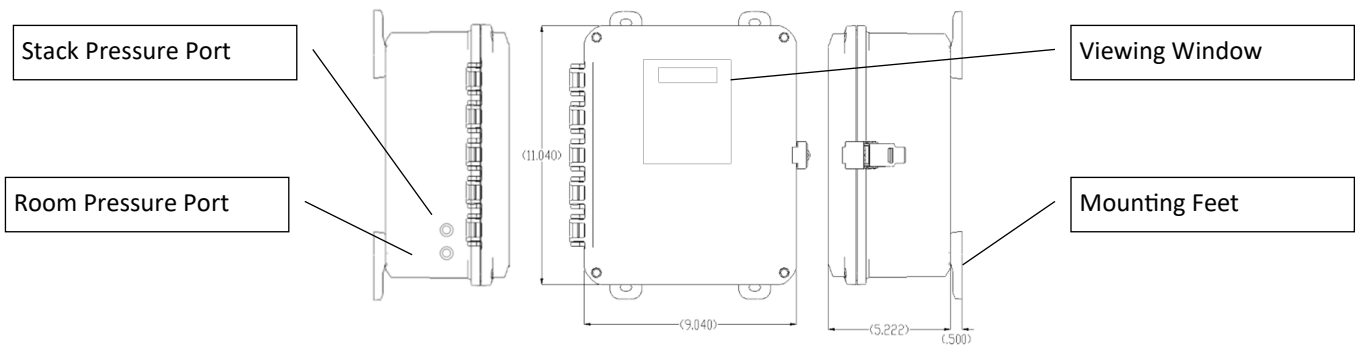

FIGURE 23
- When possible, a single “accessible” location is preferred for access to the Meridian Control Panel as well as the gas valve control box (E-VK (N/P) for the Isoflames linear burner. With mounting feet installed the Meridian Control Panel measures approximately 9-1/2” (W) x 12” (T) as shown in **(Figure 23)**. The gas valve control valve box measures approximately 12” (W) x 12” (T) x 4” (D). The gas valve control box installation will be covered in section “Gas Line & Valve Box Installation”.